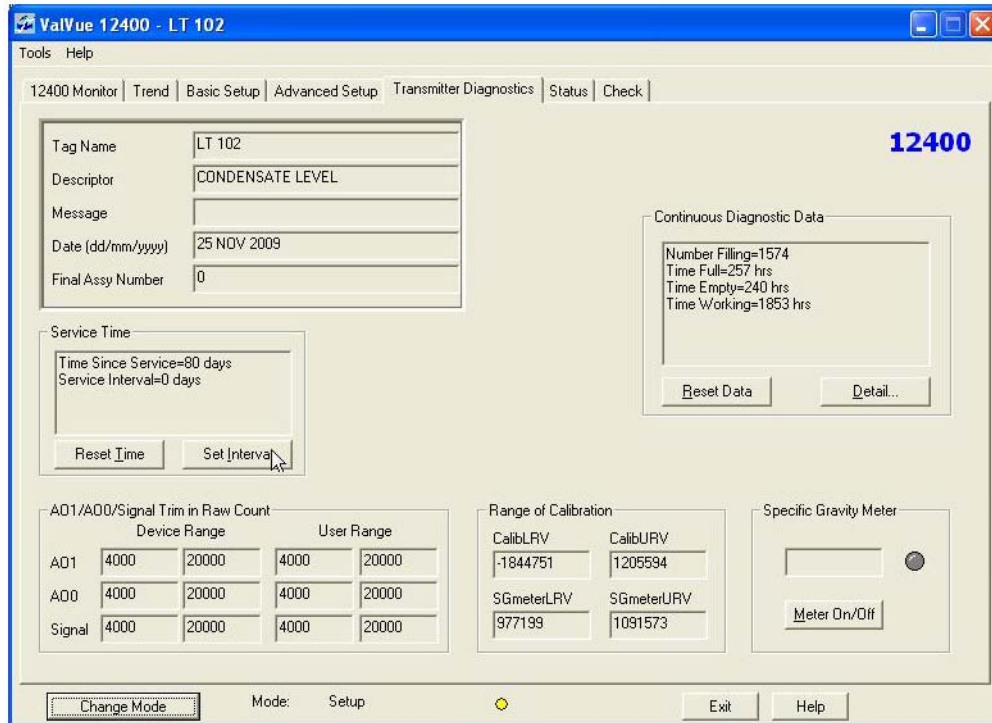

Figure 258 Selecting Set Interval
1. Click **Set Interval** (Figure 258).